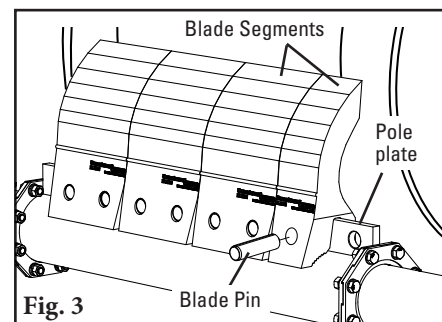

Fig. 3
3. **Install the new blade segments.** Seat the new blades onto the pole plate, leaving an open hole on each end of pole plate. Align holes on pole and blade, then install blade pins to lock in place (Fig. 3).